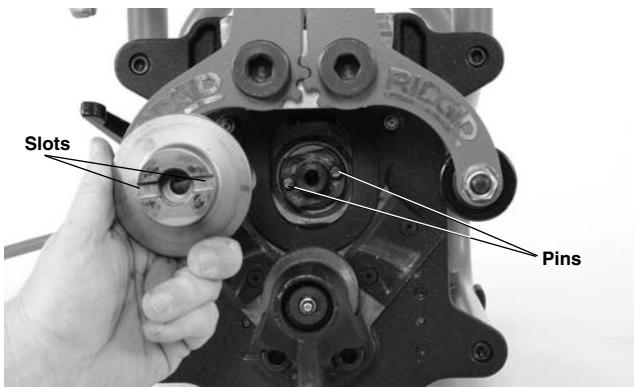

Figure 25B – Replacing Cutter Heads
5. When replacing the cutter head, make sure it sits squarely on the spindle, with the slots in the cutter head engaging the drive pins (*Figure 25B*). Securely tighten socket head cap screw using the hex wrench and spanner wrench supplied.